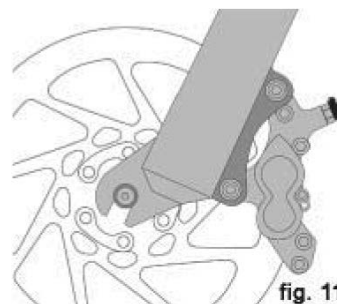
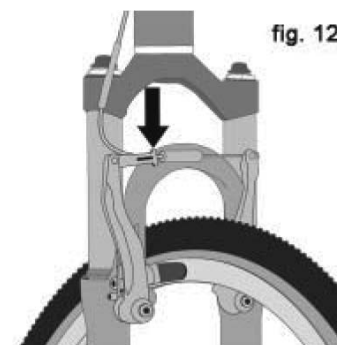

fig. 11
fig. 12
- (1) If your bike has rim brakes, disengage the brake's quick-release mechanism to increase the clearance between the tire and the brake pads (See Section 4.C fig. 11 through 15).
- (2) If your bike has rim brakes, disengage the brake's quick-release mechanism to increase the clearance between the wheel rim and the brake pads (see Section 4.C, fig. 11 through 15).
- (3) On a derailleur gear system, pull the derailleur body back with your right hand.
3. Some bicycle brakes, such as disc brakes (fig. 11) and linear-pull brakes (fig. 12), are extremely powerful. Take extra care in becoming familiar with these brakes and exercise particular care when using them.
Most rim brakes have some form of quick-release mechanism to allow the brake pads to clear the tire when a wheel is removed or reinstalled. When the brake quick release is in the open position, the brakes are inoperative. Ask your dealer to make sure that you understand the way the brake quick release works on your bike (see fig. 12, 13, 14 & 15) and check each time to make sure both brakes work correctly before you get on the bike.